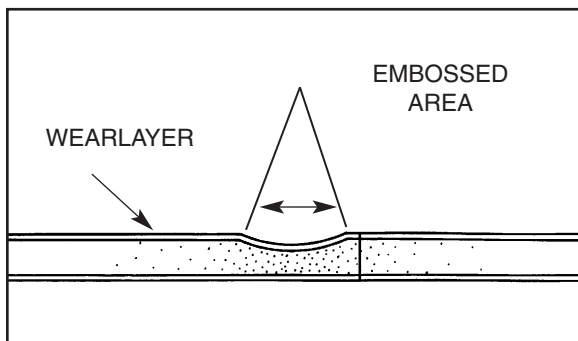

Fig. 13. Cut seam on top edge of embossed area.
- On designs with narrow embossed lines, $5/32''$ (4.0mm) or less, cut the seam along the top edge or shoulder of the embossing. Leave the embossed line on the top sheet when cutting the seam and completely remove it from the bottom sheet (Figure 13).